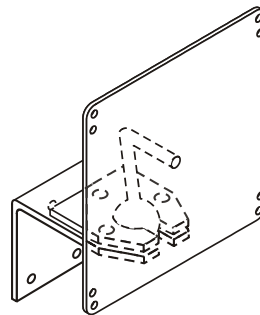

Fig. 3
- Ball and socket joint MWV1 (Fig. 3): For accurately aligning the flame detector to an area